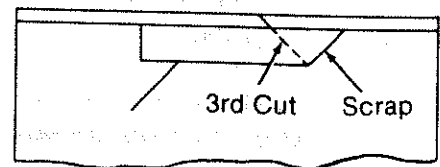

Fig. 119 - Making a 4-Sided Frame
3. Place the same edge of the workpiece against the fence for all cuts. Make the first cut at one end of the workpiece, then flip the workpiece over and make the second cut from the other end. Continue this way until all four cuts are made. (Figure 119)